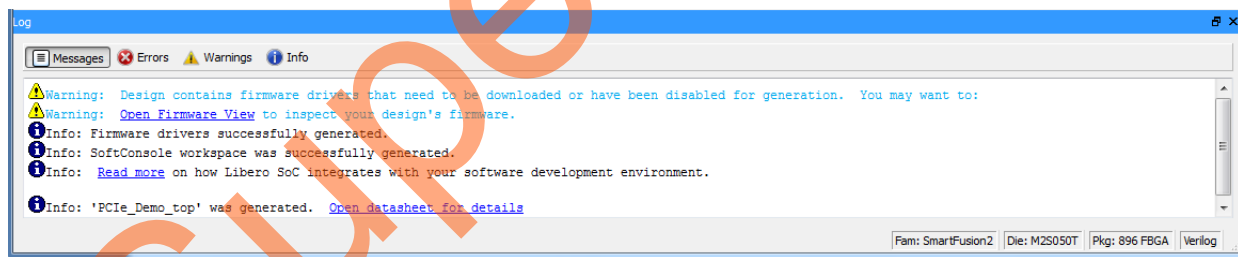

Figure 28 • Log Window
3. The message “'PCIE_Demo_top' was successfully generated” is displayed in the Libero SoC log window if the design was generated without any errors. Libero also generates the SoftConsole software project. The log window is displayed as shown in Figure 28 on successful component generation.